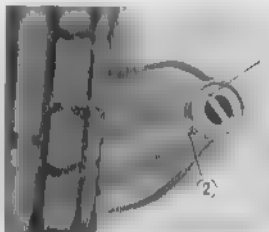

Fig. 4.65 Removing diffuser pipe
3. The diffuser pipe can be removed by unscrewing the 6 X 8 hex bolt; however, the diffuser pipe is not removable on the USA export models (Fig. 4.65).